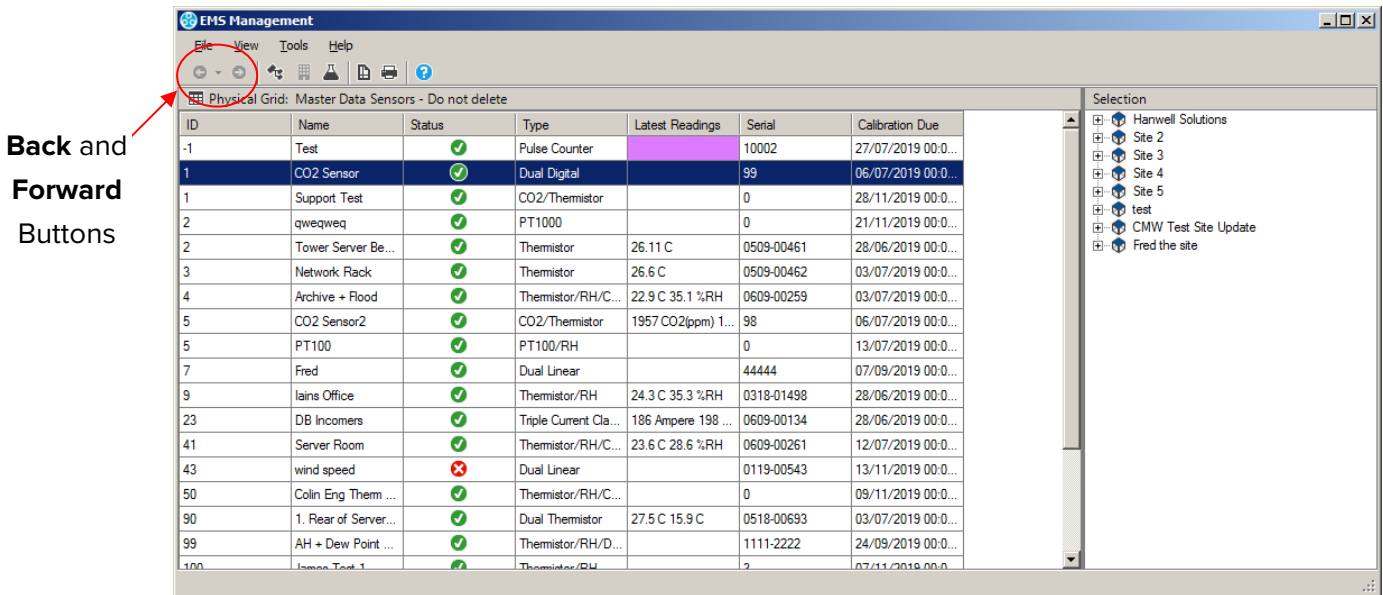

Figure 3
The **EMS Remote Management Tool** window is displayed once the **Remote Management Tools** have loaded. See Figure 3 below:
Using the **Back** and **Forward** tool buttons in the top left of the screen as shown in Figure 3 above.
2. Select the correct Sensor from the EMS Remote Management Tools **EMS Management** window. See Figure 3 above.